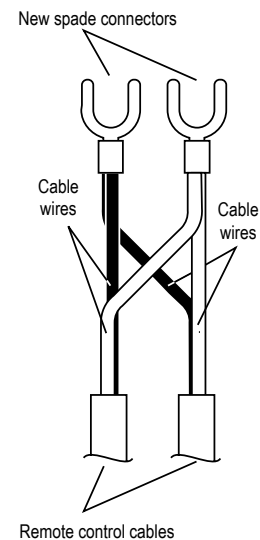

fig. 3
8. Cut the spade connectors from 2 of the controller cables to be connected to the appliance (4 spade connectors should be cut off) and discard. Connect the wires from these two cables and terminate into two new spade connectors as shown in fig.3. Spade connectors are available from your local electrical component retailer.
13. Cut the spade connectors from all four controller cables to be connected to the appliance (8 spade connectors should be cut off) and discard. Connect the wires from two cables and terminate into two new spade connectors as shown in (fig. 3). Repeat for the remaining two cables. Spade connectors are available from your local electrical component retailer.